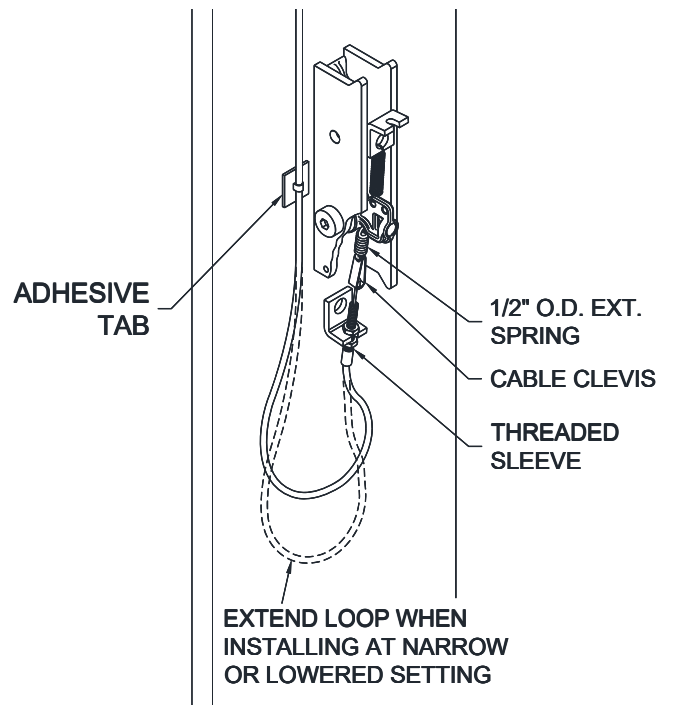

**Fig. 13 – Power Column Lock Assembly**
- 32) Attach Mechanical Lock Release Cable Assembly to Power Column Lock Release Clevis using the 3/16" diameter x 1/2" long pin and (2) "C" clip retainers, **Fig. 13**.
- 33) Insert threaded sleeve portion of cable assembly in slot located on tab above locking pawl, **Fig. 13**. One jam nut should be located on each side of tab. Position threaded sleeve with 1/2" of thread below tab as indicated in **Fig. 13** and tighten jam nuts.